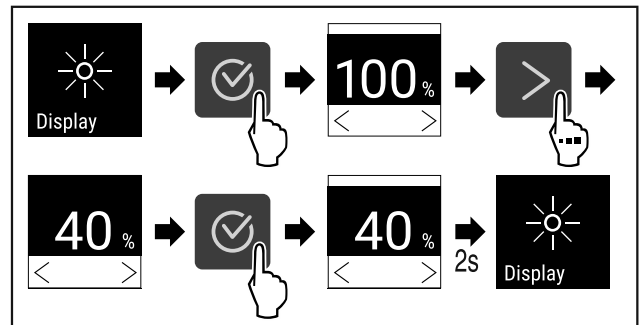

Fig. 82
- ▶ Complete the steps (see Fig. 82) .